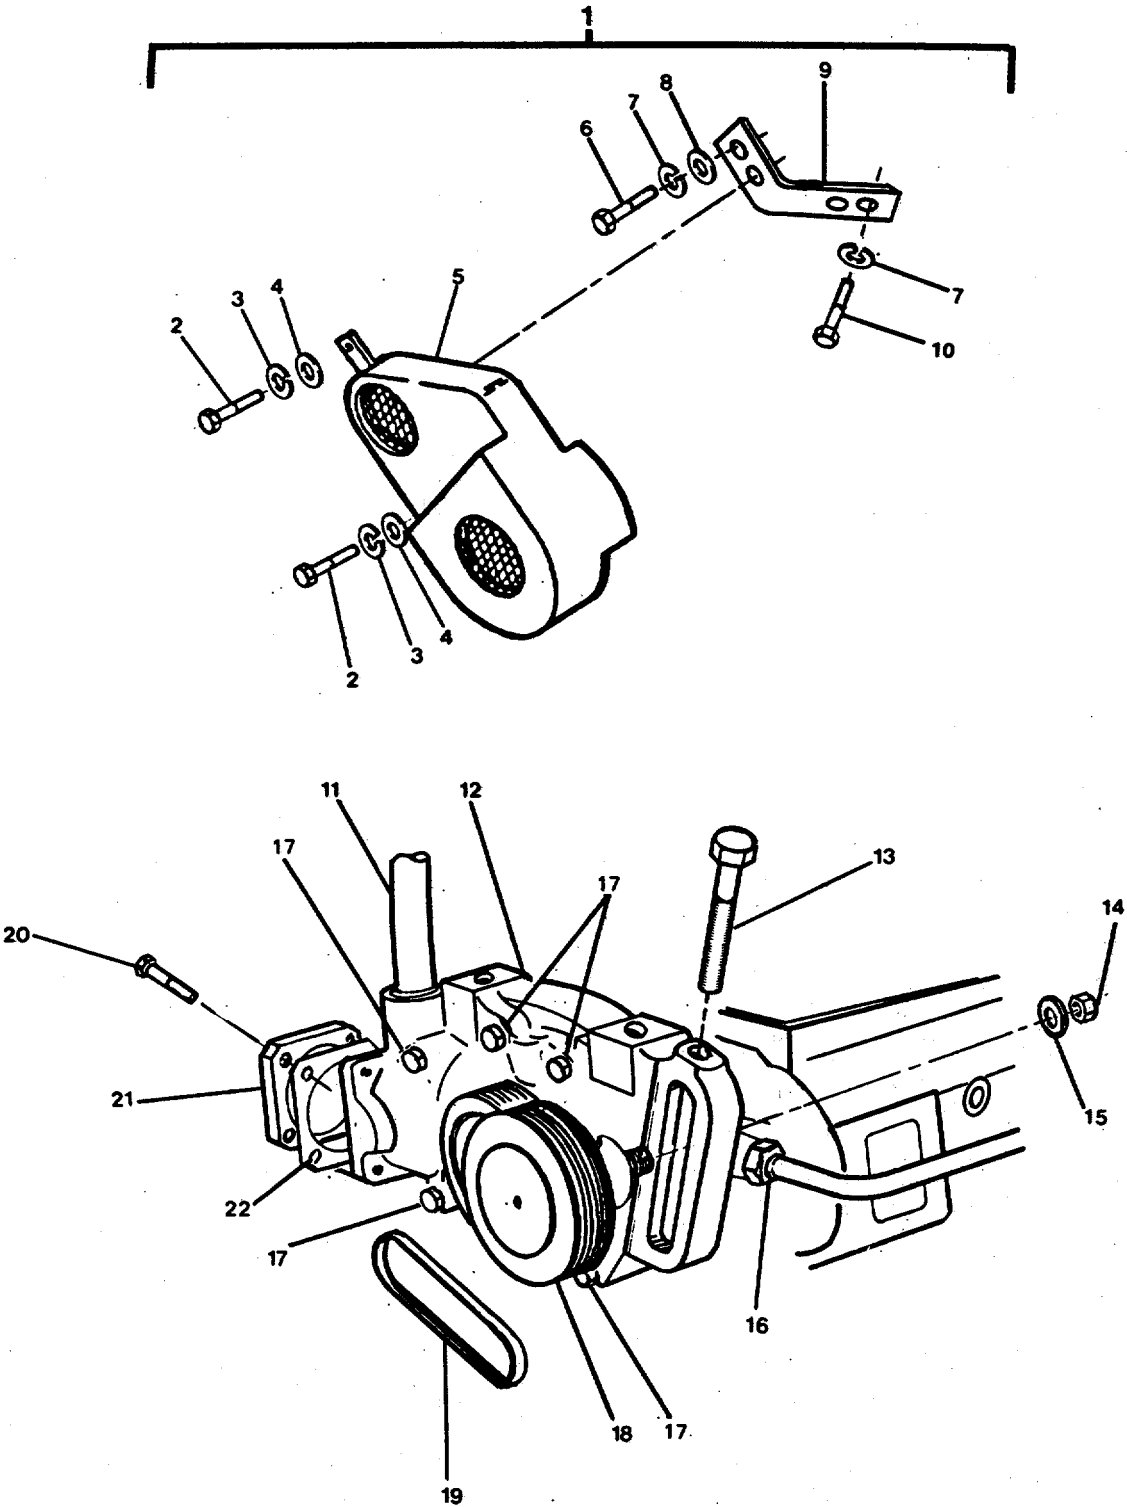

FIGURE 2-21. Water Pump and Idler (Sheet 1 of 3).
- a. Remove belt guard (5, FIGURE 2-21, Sheet 1) by removing two hexhead capscrews (2), lockwashers (3), and flat washers (4).
- b. Turn idler groove pulley (18, FIGURE 2-21, Sheet 1) by hand to check ease of rotation. If pulley does not turn easily, replace the idler pulley assembly (32, FIGURE 2-21, Sheet 3). Refer to REMOVAL steps of this procedure.
- c. Inspect pulley alignment. Misalignment must not exceed 1/16 inch per foot (0.5mm per cm) of distance between pulley centers. If misaligned, replace the idler pulley assembly (32, FIGURE 2-21, Sheet 3). Refer to REMOVAL steps of this procedure.
- a. Remove belt guard (5, FIGURE 2-21, Sheet 1) by removing two hexhead capscrews (2), lockwashers (3) and flat washers (4).
- b. Use belt tension gauge (3, FIGURE 2-21, Sheet 2) to measure V-belt (2) tension.
- (1) New belt tension should be 150 to 160 ft-lbs (200 to 220 N•m).
- (2) Used belt tension should be 70 to 120 ft-lbs (95 to 165 N•m).